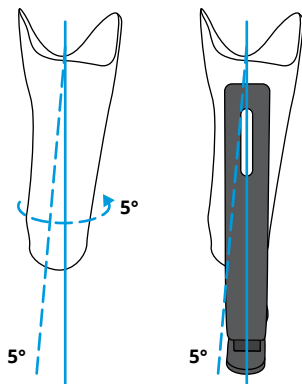

Figure 1
5. Observe the rotation of the foot, pylon M/L angle (lean) and pylon M/L position (inset) on the current prosthesis and approximate this position on the new socket by drawing a vertical line on the posterior of the new socket (Figure 1).
6. Remove the bolts from the mounting plate and use the bolt holes as "sights" to line up the mounting bracket. When choosing height for the mounting plate, place it as proximal as possible that does not eliminate room for growth, but be sure to leave enough room below the posterior socket brim to allow a suspension sleeve to seal if using vacuum or suction suspension plus $\frac{1}{2}$ in. (1.3 cm) to accommodate height adjustment if needed (Figure 1).